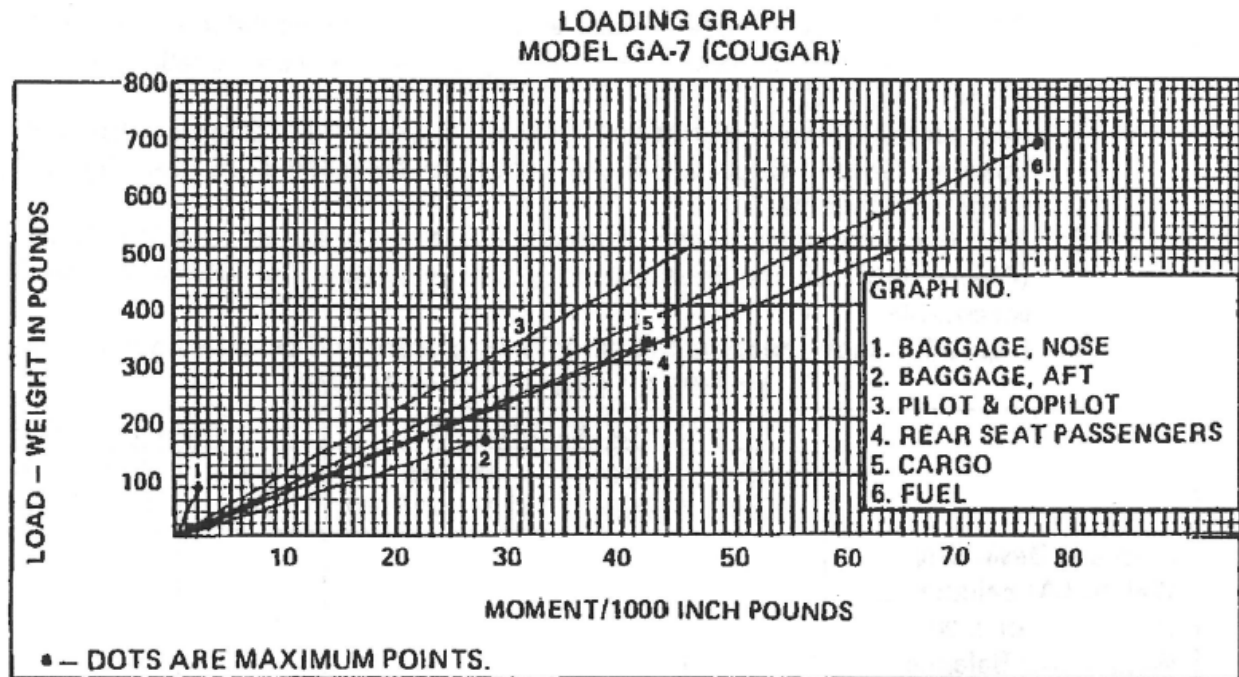

Figure 6-5. Loading Graph
The following information will enable you to fly your GA-7/Cougar within the prescribed weight and center of gravity limitations. To calculate the Weight and Balance for your airplane, use the Sample Loading Problem (Figure 6-4), Loading Graph (Figure 6-5), and Center of Gravity Envelope (Figure 6-6) as follows:
2. Add all additional weights and their corresponding moments, obtained from the Loading Graph (Figure 6-5) of items to be carried on the flight. Total the weights and moments.